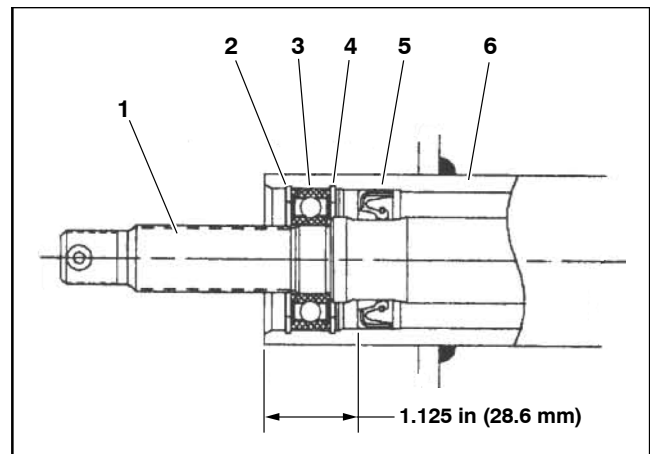

Figure 4
C. Position differential case assembly into transaxle housing and install bearing caps (item 2). Tighten bearing cap bolts from **35 to 45 ft-lb (47 to 61 N-m)**.
4. Install the axle shaft and bearing assembly (Fig. 4).